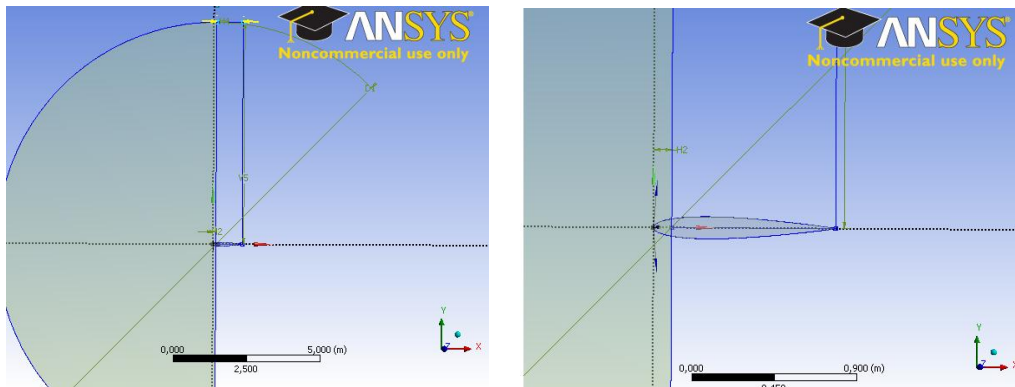

Fig. 2. Rectangular placed next to half of the cylinder.
6. Add new **Sketch** in the XY-Plane. Go to the **Sketching** mode. Make a rectangular 0,9 x 7,5m. The end points of the bottom side of rectangular are : (0,1 0), (1 0). Use **Coincident** in order to attach some lines with the other. Fig. 2 shows the rectangular in the sketching mode.